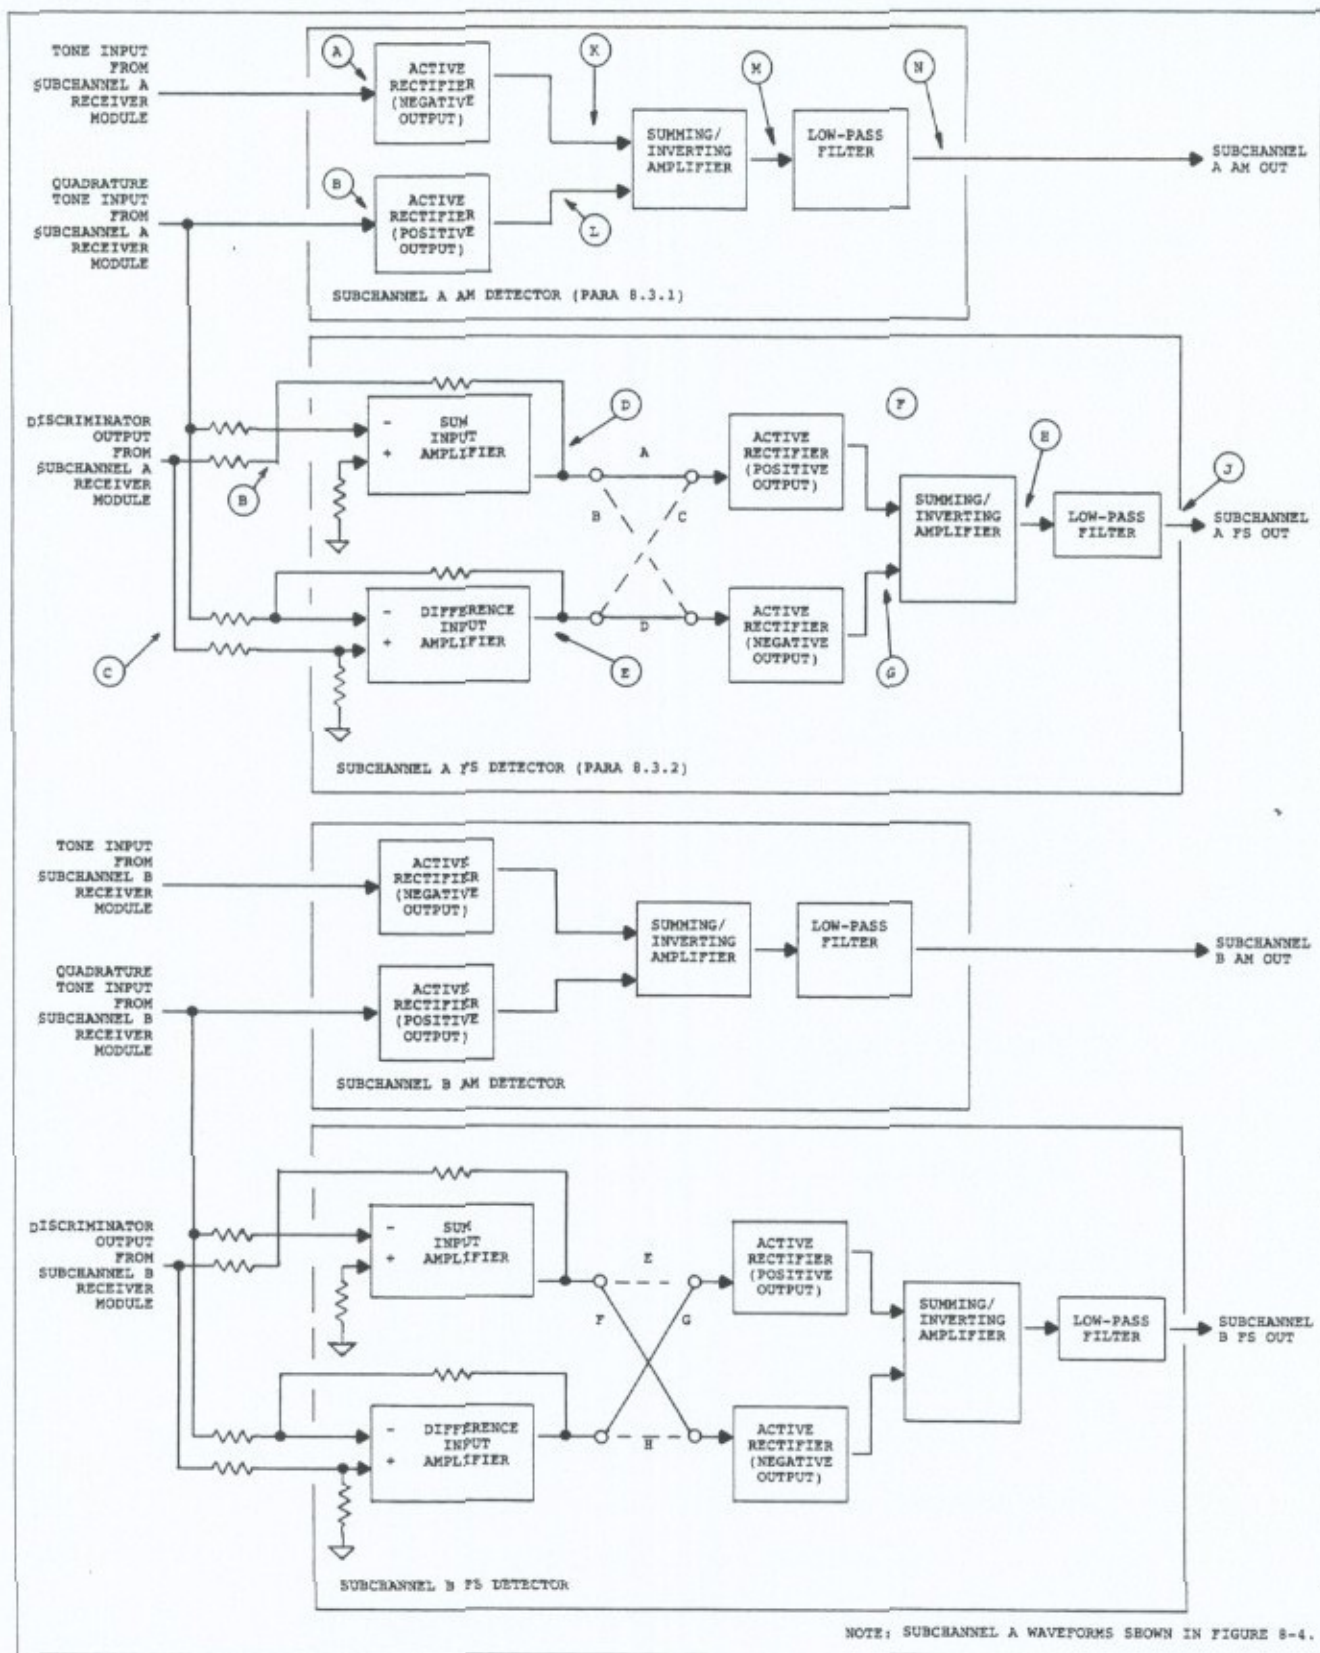
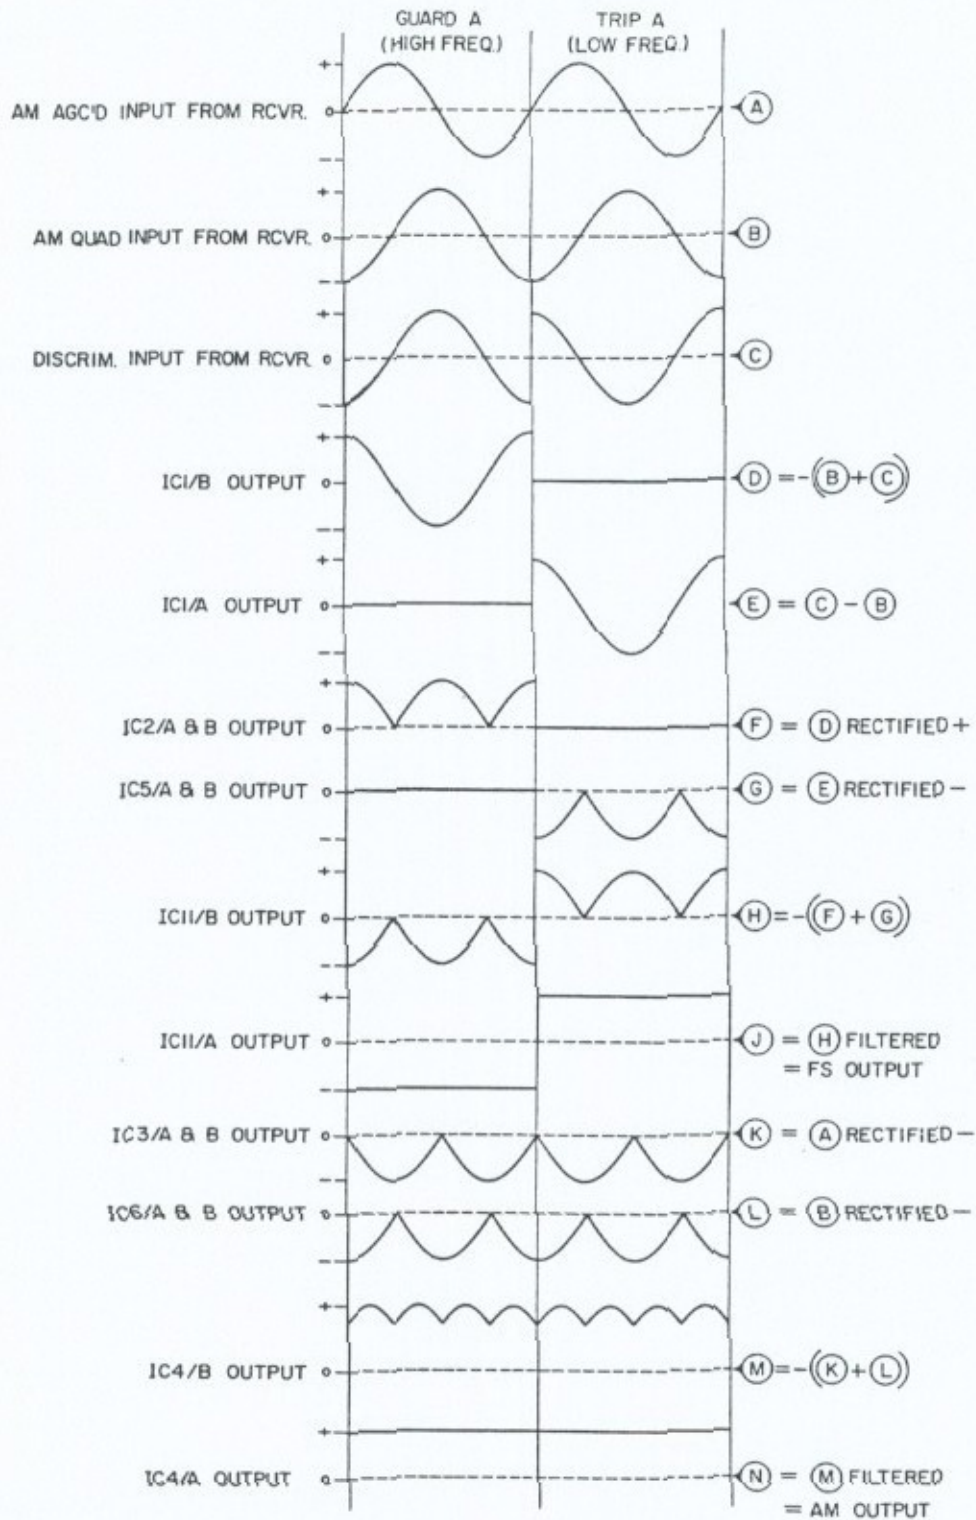

Figure 8-2. Block diagram, RFL 67 FS/AM Detector Module
Figure 8-3. Subchannel A waveforms, RFL 67 FS/AM Detector Module
The block diagram in Figure 8-2 shows the circuits for both subchannels; waveforms at the indicated points in the Subchannel A circuits are shown in Figure 8-3.
a. Active Rectifiers. Dual operational amplifier IC3 and its associated components form the Subchannel A tone rectifier, which accepts and rectifies the amplified and gain-controlled tone output of the receiver module (signal A on Figure 8-3). Dual operational amplifier IC6 and its associated components form the Subchannel A quadrature rectifier, which accepts and rectifies the quadrature output of the receiver module (signal B). These signals are identical in amplitude and shape, but the quadrature signal lags the tone signal by 90 degrees. The outputs of the active rectifiers (signals K and L) are fed to the summing/inverting amplifier.
b. Operational Rectifiers. Dual operational amplifiers IC2 and IC5 and their associated components form the operational amplifiers for the FS detector. IC2 is connected so its output (IC2-1) goes positive when guard is present, as shown in Figure 8-3 (signal F). IC5-1 goes negative when trip is present (signal G).